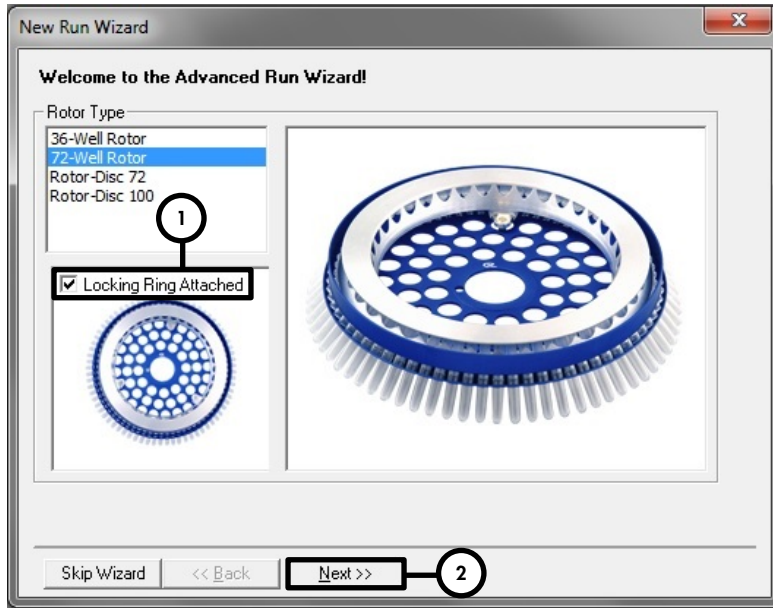

Figure 2. The New Run Wizard dialog box.
7. In the next **New Run Wizard** dialog box (Figure 2), check the **Locking Ring Attached** box and click **Next**.